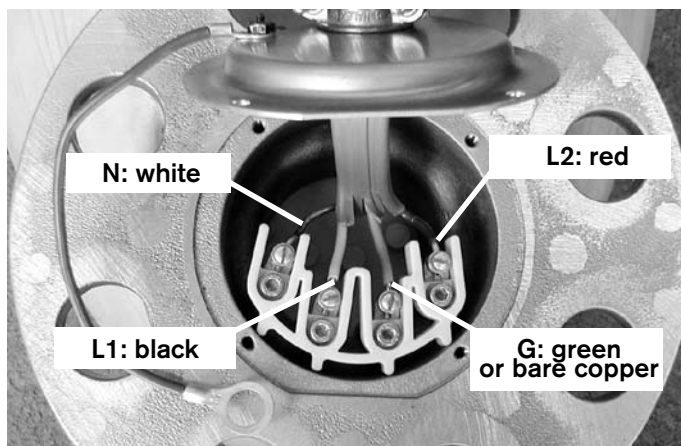

Fig. 4a Wire run to the yaw connection (120/240 V, 60Hz, Split Ph and 120/208V, 60 Hz, 3 Ph).
- Pass cable through strain relief cover so approximately 1 inch (2.5 cm) of cable sheath protrudes through as shown in **Fig. 4a**. Tighten strain relief clamp to secure cable.
- **120/240 V, 60 Hz, Split Phase and 120/208 V, 60 Hz, 3 Phase systems:** Connect the red, black and white wires to the corresponding color coded terminals on Skystream yaw. Connect green or bare copper wire to the green terminal. Tighten wire terminal screws to 20-25 inch-lbs (2.3-2.5 N-m). See **Fig. 4a**.